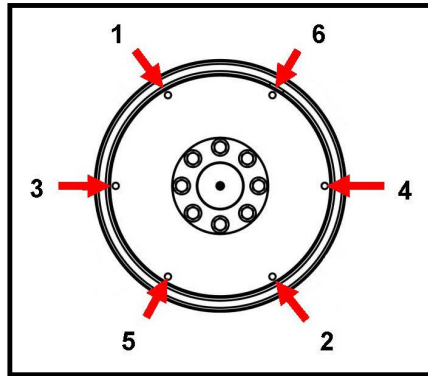

FIGURE 22. FIXING SEQUENCE
10. Tighten the bolts to fix the coupling disc to the flywheel in the sequence shown in Figure 22 on page 38.